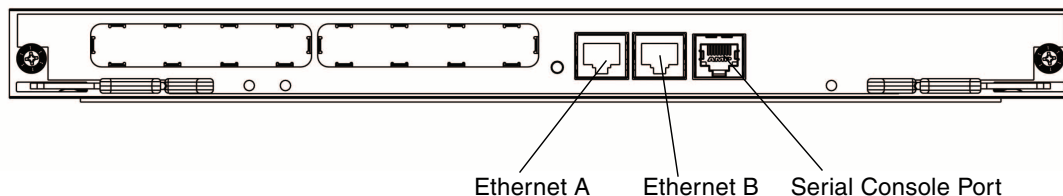

FIGURE 2-16 Front Connectors on the Netra CP3020 Board
1. Connect a serial cable to the serial console port on the front panel of the Netra CP3020 board (FIGURE 2-16) or the Netra CP30X0 rear transition module.